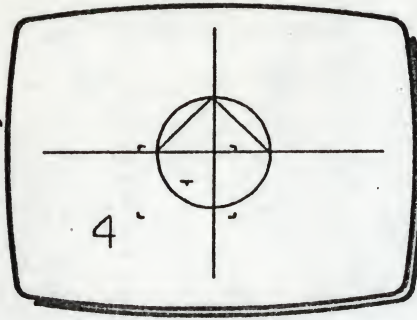

Fig 5
- 2 Move XY and rotate Z to frame a quarter of the circle with the cursor, as (4) in Fig 5.